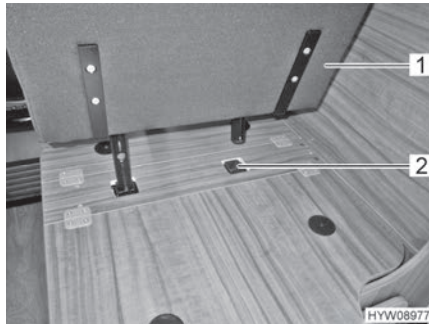

Fig. 13 Place the attachable seat in the holder
- Place the attachable seat (Fig. 13,1) in the holder (Fig. 13,2).